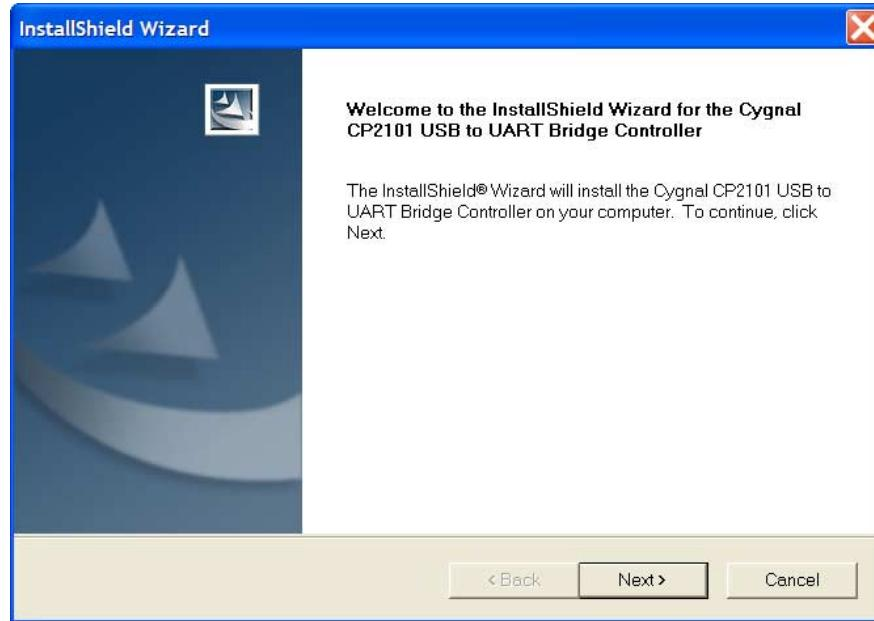

Figure 7 – Launching CP2101 Driver Installation
1. Double-click **CP2101_Drivers.exe**. The InstallShield Wizard to extract the driver installation files launches, as shown in Figure 7. Click Next.